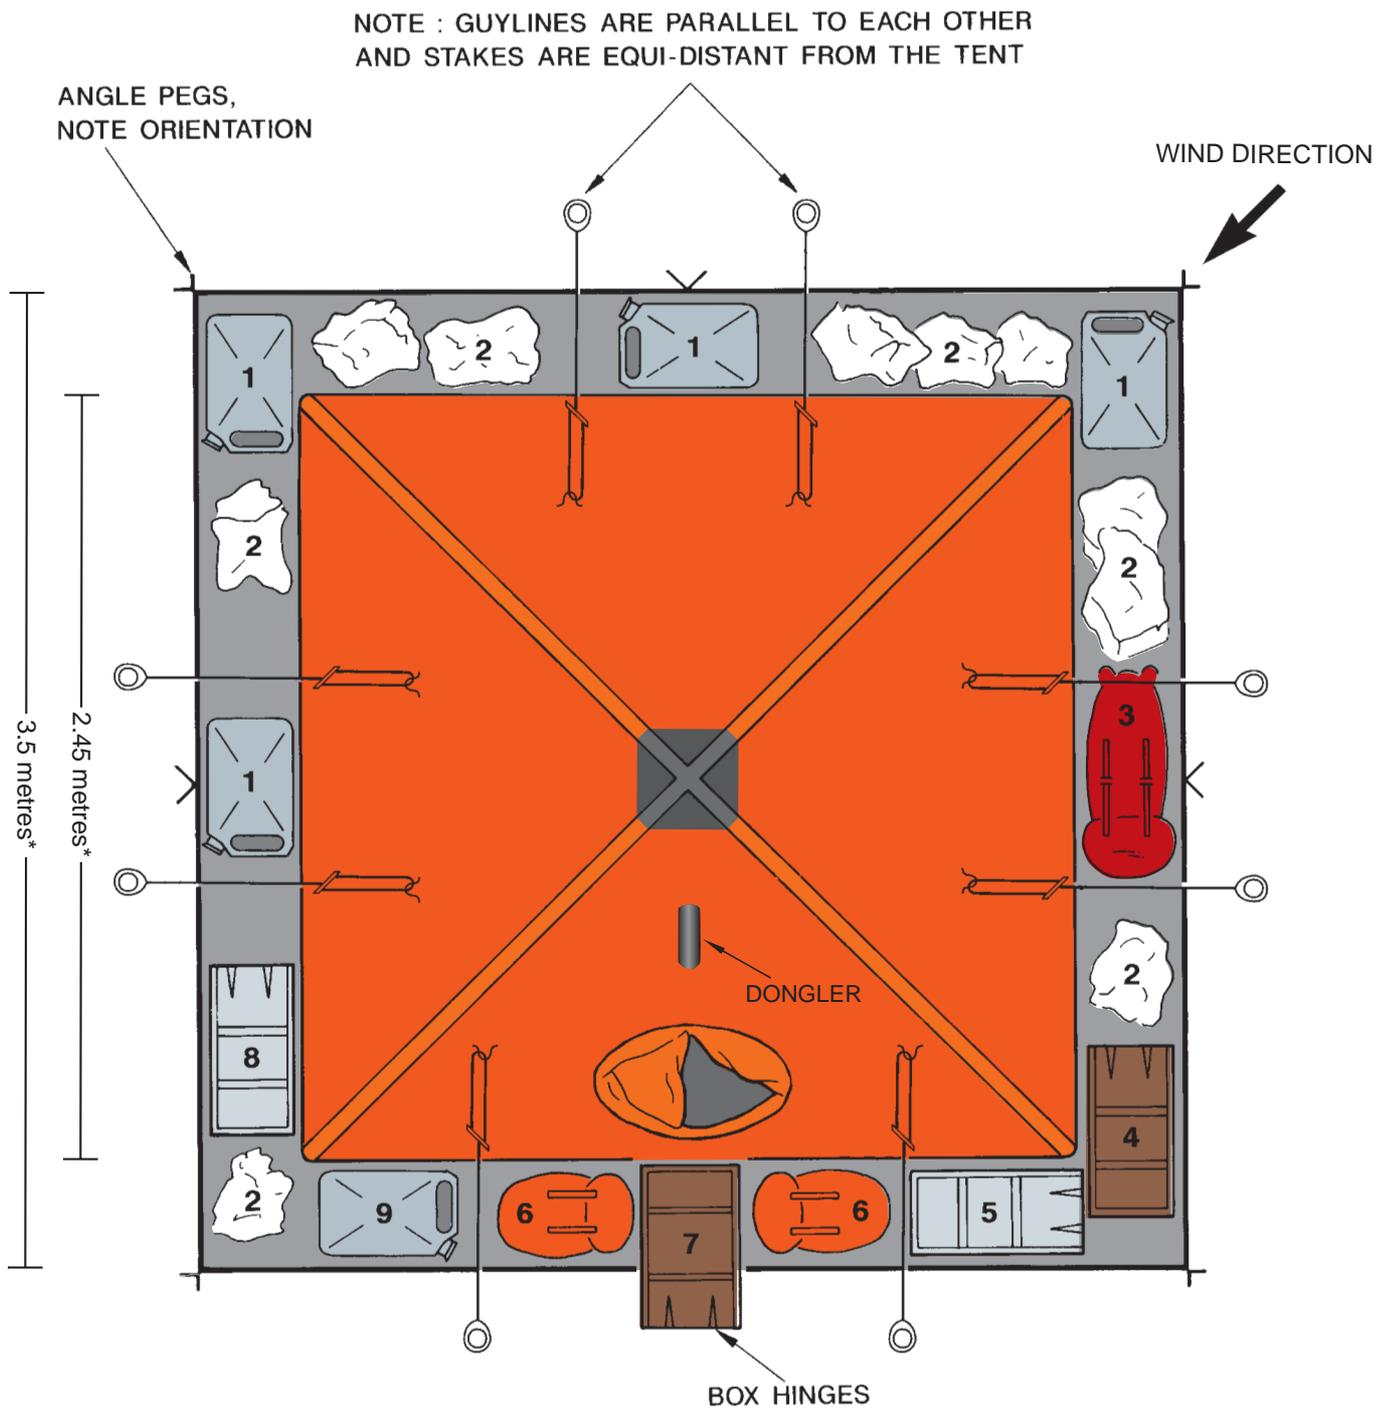

Figure 4.6a External pyramid tent plan
- If surfaces are hard, the poles will need to be dug in. In the platform, measure out the width between poles and dig diamond shaped holes to take each of the four pole ends. Have these measurements already in your head or carry a length of string showing the exact distance - tents vary a little. Use whatever method you find most suitable. The holes should be deep enough for the poles to “hang”. See Figure 4.6a for dimensions.
- Place equipment and snow blocks on the valance as per Figure 4.6a. If using snow blocks, put the crust side to the wind.